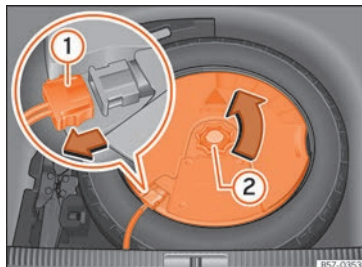

Fig. 324 In the luggage compartment: remove the subwoofer.
- Disconnect the *subwoofer* »» Fig. 324 ① speaker cable.
- Turn the securing wheel in an anti-clockwise direction »» Fig. 324 ②.